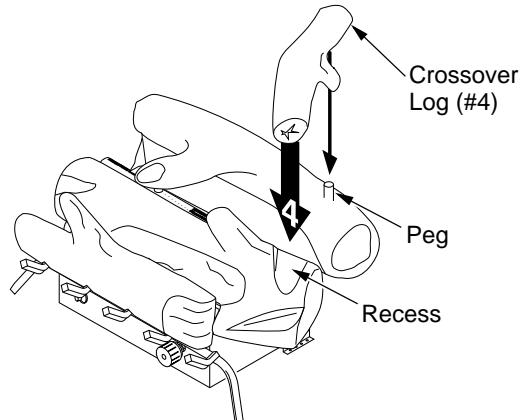

Figure 24 - Installing Crossover Log (#4)
- Place crossover log (#4) onto the pin (right) on back log (#2) and into the recess of the middle log (#1) (see Figure 24).